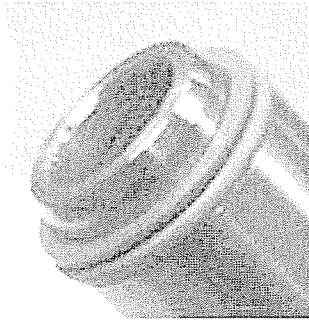

Figure 17
- 10. Push seal onto plunger. Lip of seal should be between o-ring and plunger. No gap should exist between o-ring and seal (figure 17).